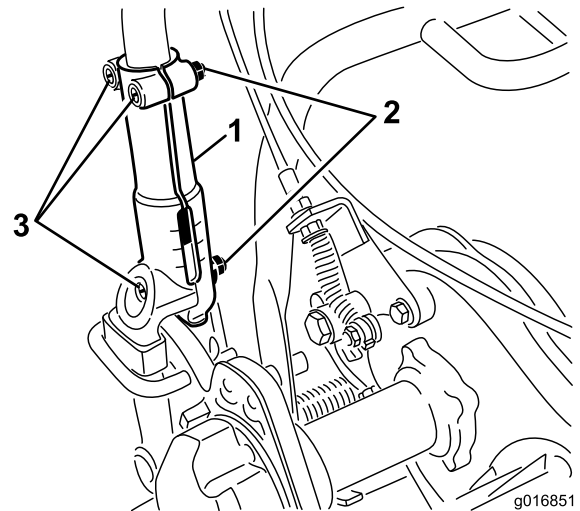

Figure 27
1. Loosen the 3 carriage bolts and nuts securing each side of the handle in the handle clamps (Figure 27).